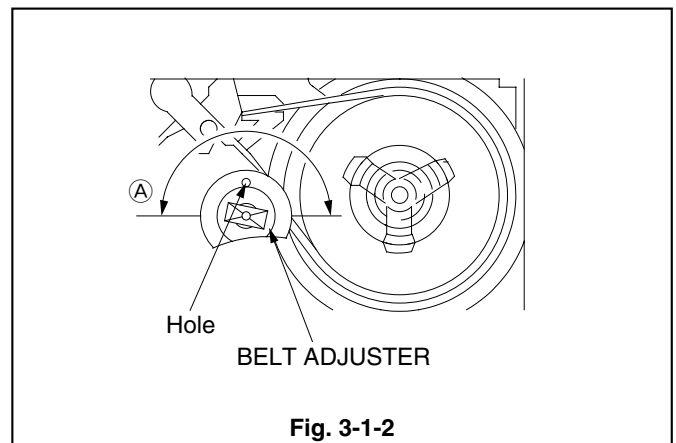

Fig. 3-1-2
3. If "A" is not $0.6 \pm 0.5\text{mm}$, move the Hole in the BELT ADJUSTER in the Fig. 3-1-2 within the range shown by the arrow $\text{\textcircled{A}}$ to set "A" at $0.6 \pm 0.5\text{mm}$.